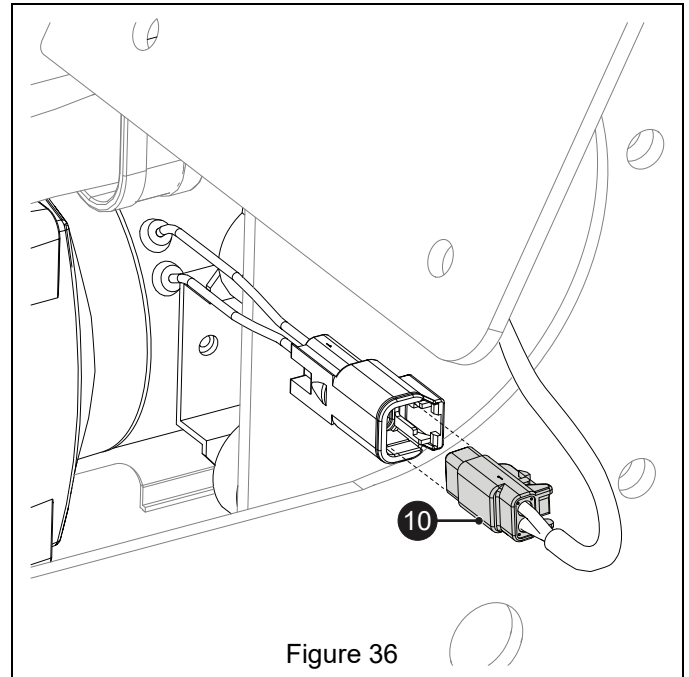

Figure 36
57. Route brine pump connector down through hole to left of engine and connect to brine pump. Wrap excess harness into a coil and secure to frame with one tie wrap (item 25). See Figure 36.